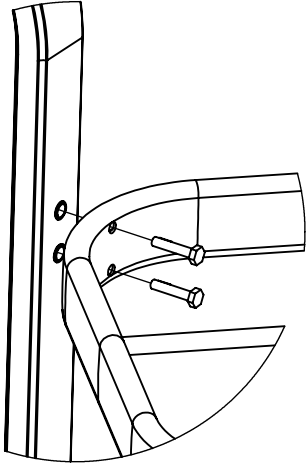

Fig 1
2. Using provided hardware, assemble the legs to the center support. You may have extra hardware depending on the table purchased. Fig 1 Do not tighten completely.